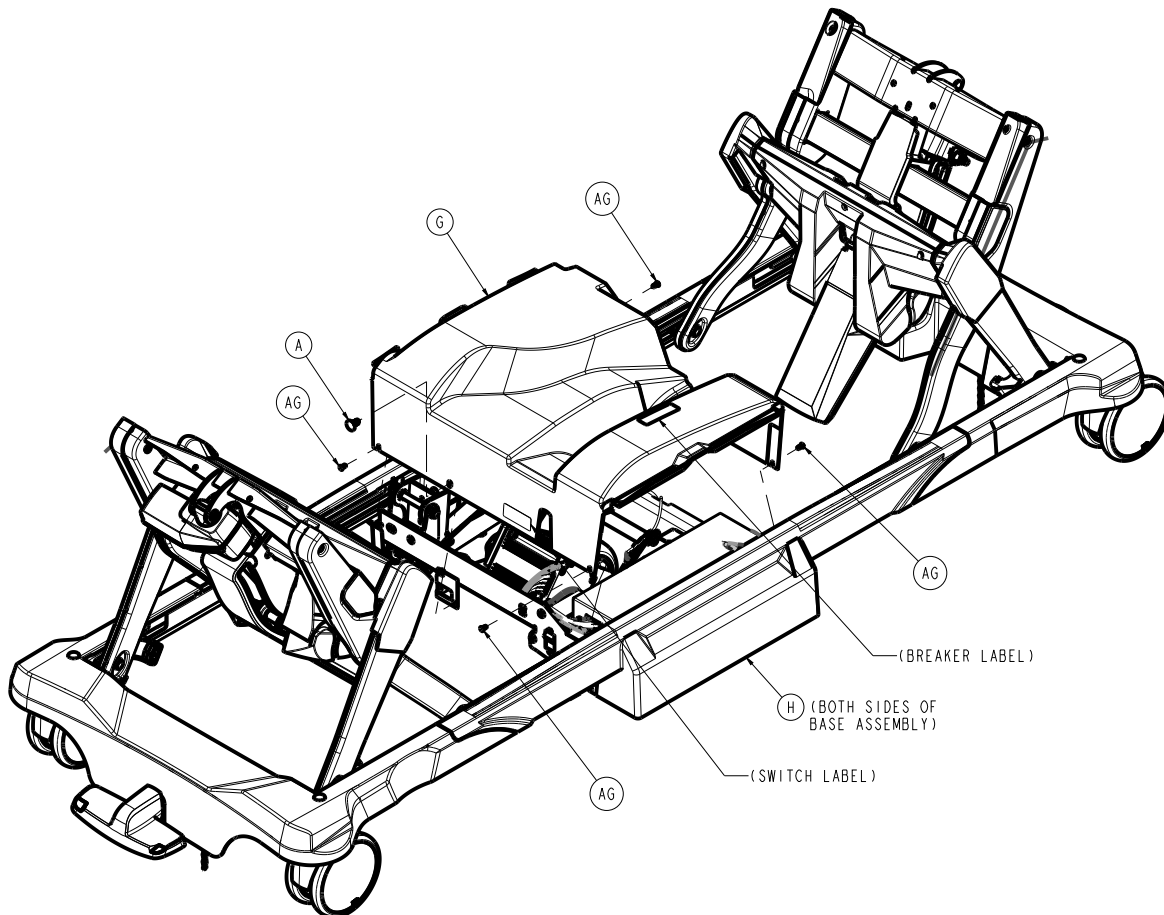

Figure 44 – Removing the Zoom cover
6. Remove the two push rivets (AG) that secure the outer base cover (H) to the **Zoom** cover (G) (Figure 44). Save the rivets and outer base cover. Repeat for the opposite side.
8. Remove and save the **Zoom** cover (G) (Figure 44).